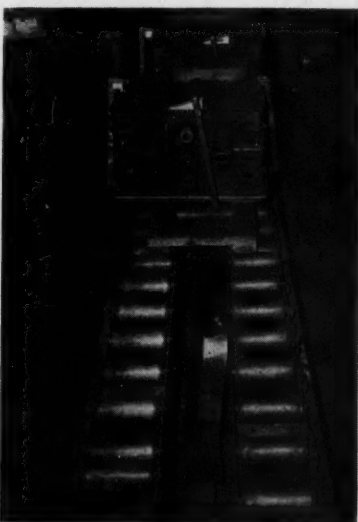

Figure 1
**A**N unusual use of an air hoist is illustrated (Figure 1) in this operation at the Ferro Machine